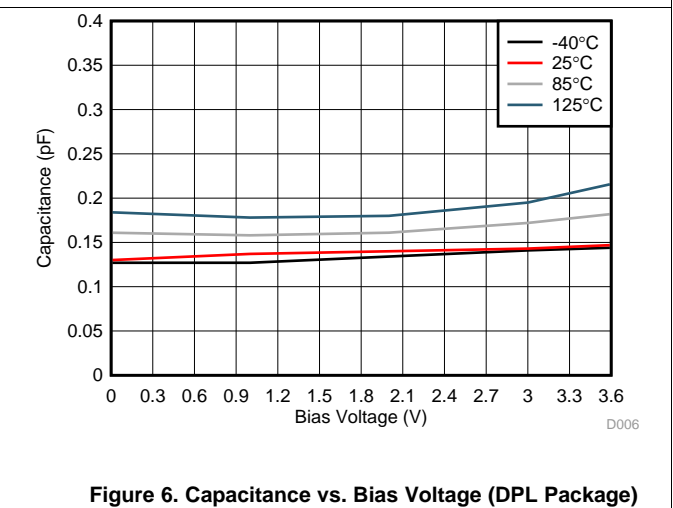

Figure 6. Capacitance vs. Bias Voltage (DPL Package)
• Added "and 0402 (DPY) packages." to the Description , and package "X1SON (2)" to the Device Information table.....	1
• Added "(DPL Package)" to the title of <a href="#">Figure 6</a> .....	6